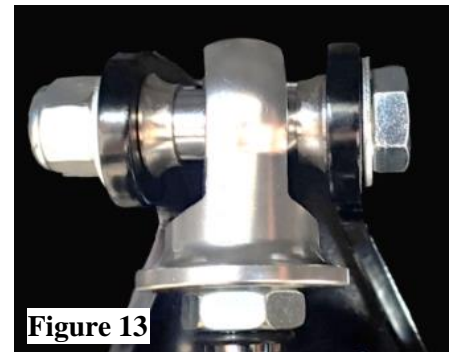

Figure 13
24. Install the upper shock connection with one .250" beveled spacer on each side of the shock eyelet with the smaller beveled edge facing the shock bearing. (**Figure 13**) Secure to the crossmember using 1/2" X 3" hardware with two washers and nylock nut. Torque to 50 lb. ft.